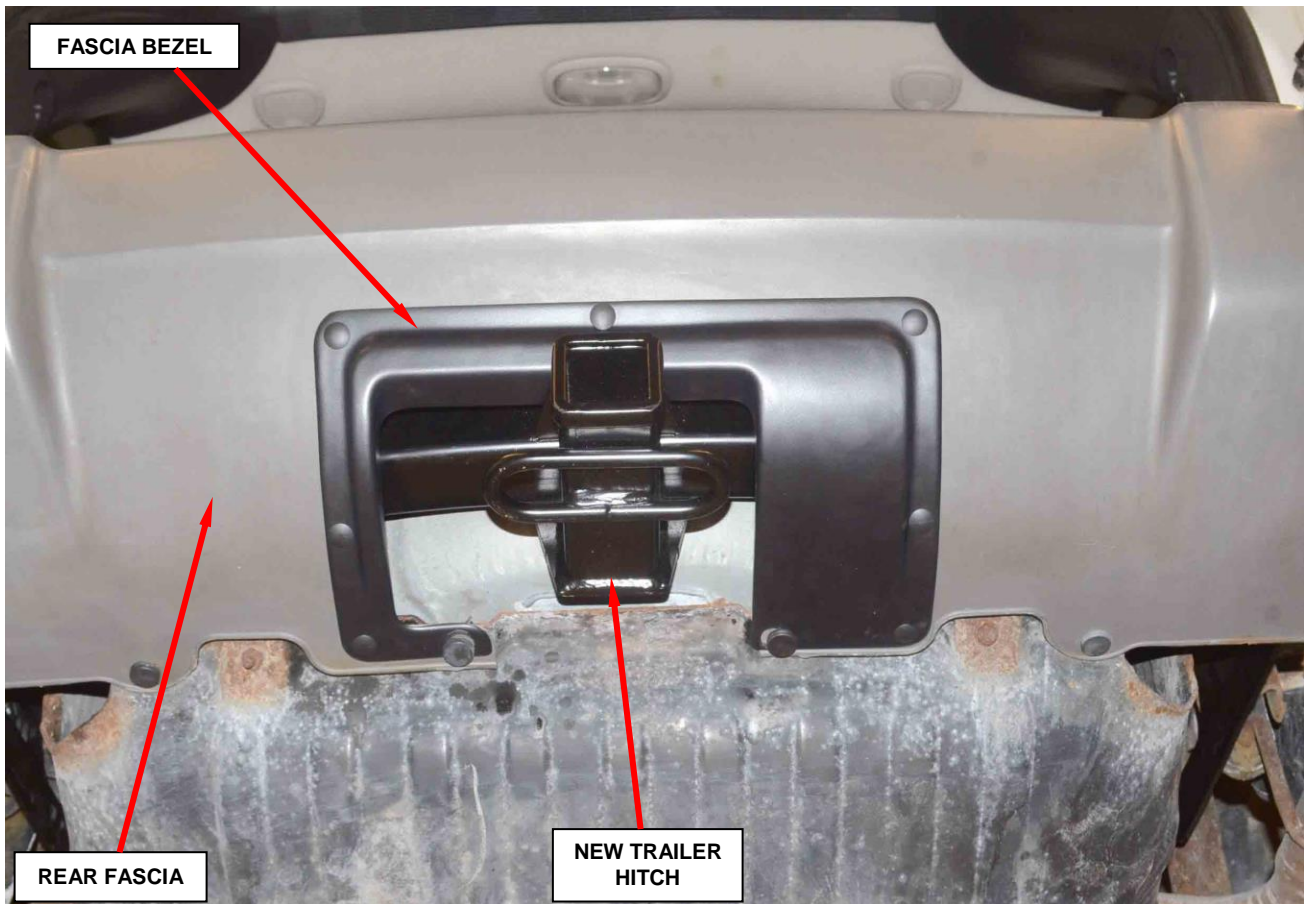

Figure 13 – Correctly Installed Fascia Bezel
22. Install the two original outboard rivets at the bottom of the rear fascia (Figure 13).
23. Place the trailer hitch fascia opening bezel into position and install the two original lower rivets (Figure 13).
24. With the trailer hitch fascia opening bezel in position on the fascia, drill the top center hole using a ¼ inch (6.35 mm) drill bit and install one plastic push pin (Figure 13).
25. Drill the remaining holes around the trailer hitch fascia opening bezel and install the plastic push pins (Figure 13).